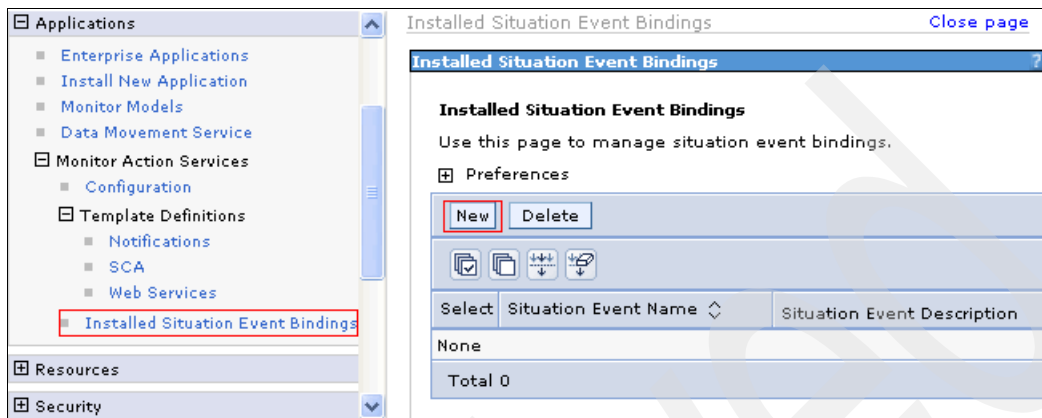

Figure 8-139 Adding a new situation event binding
6. In the left pane of the administrative console (Figure 8-139), expand **Applications** → **Monitor Action Services** and click **Installed Situation Event Bindings**. In the right pane, click the **New** button.